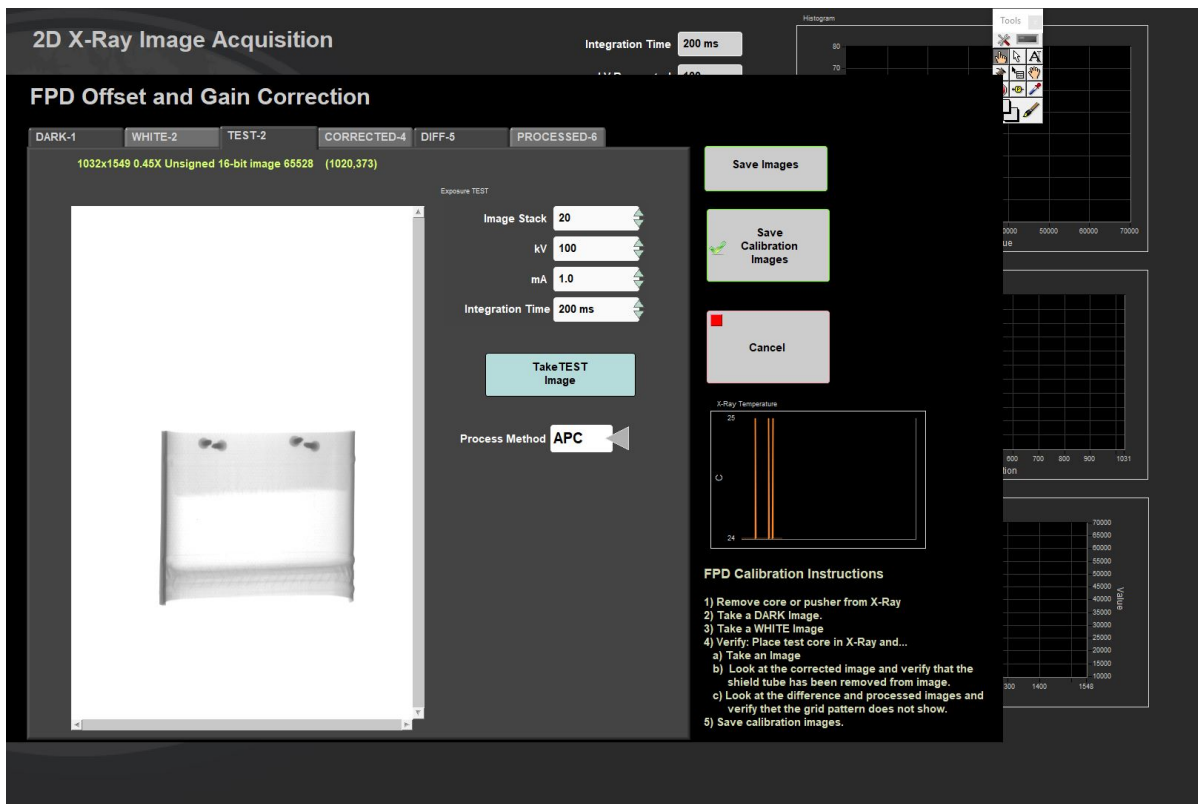

Figure 26- Test Image Tab after selecting take test image
1. Select tab TEST-3 (Figure 26)
3. Once the exposure is completed, you'll be returned to the **FPD Calibration Utility** window (Figure 26).